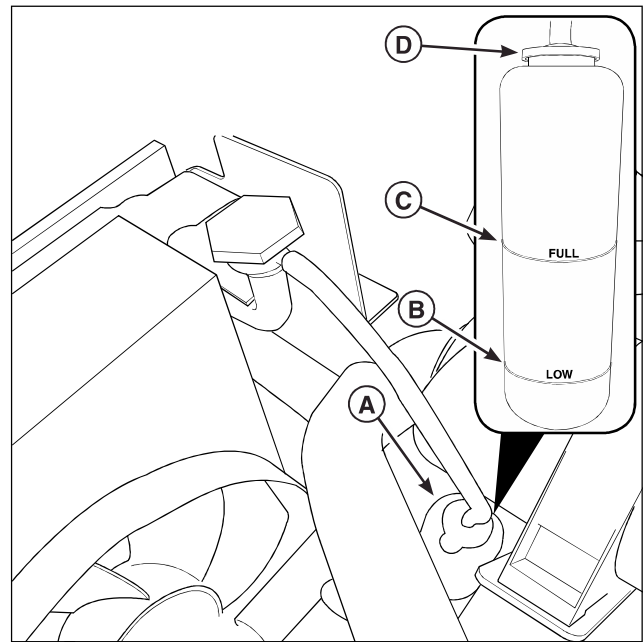

Figure 18. Checking the Engine Coolant Level
1. Open the hood to gain access to the overflow bottle. (See Figure 18).
2. Check the coolant level only at the overflow reservoir (A, Figure 18). The coolant level should be at the LOW (COLD) mark.
3. If the coolant level is insufficient, remove the cap (E) from the reservoir and add coolant to the LOW (COLD) mark. See engine owners manual for specific engine coolant specifications.